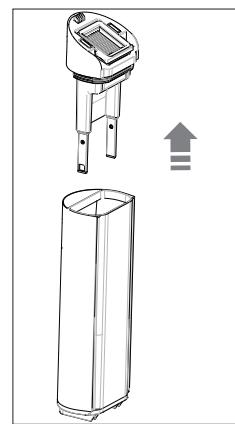

Fig. 9 – Removing the cap
- ▶ Pull the cap of the recovery tank upwards and remove (**see Fig. 9**).